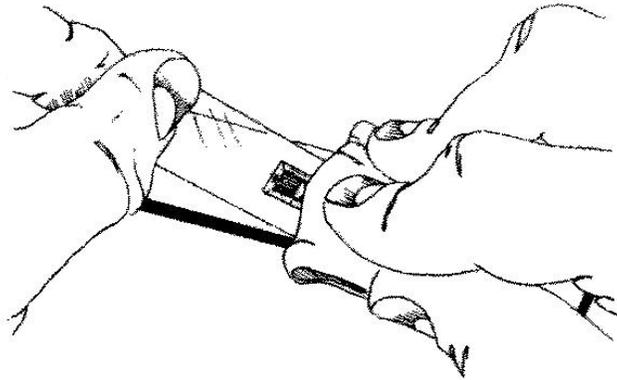

Figure 12-47. M-Bond 200 Adhesive Step 9
*Immediately* rotate the tape to approximately a 30-degree angle so that the gage is bridged over the installation area. While holding the tape slightly taut, slowly and *firmly* make a single wiping stroke over the gage/tape assembly with a piece of gauze (Figure 12-47) bringing the gage back down over the alignment marks on the